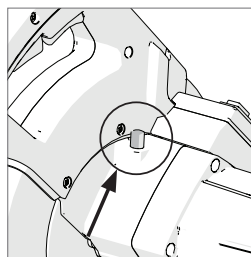

Fig. 39
- Press the black arbor lock button to lock the arbor. (Fig. 39)